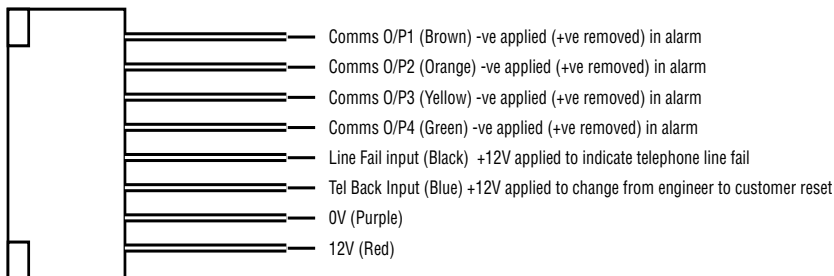

Figure 11. Communications Wiring Harness
4. Make any necessary connections from the communicator to the Comms Wiring Harness. Figure 11 shows the outputs available on the free ends of the Comms Wiring Harness.